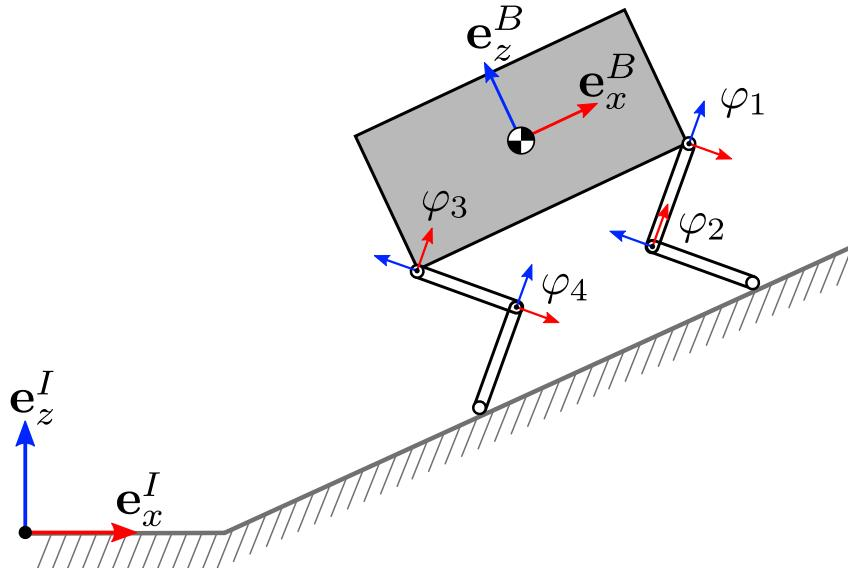

Figure 3: Planar legged robot standing on an incline.
In this exercise, consider the case of a planar legged robot with two legs and 4 joints overall. The robot consists of a rectangular base and legs comprised of links of same length, as is shown in Fig. 3. The configuration of the robot is parametrized by a vector of generalized coordinates:
- (1) The robot in Fig. 3 can have different contact configurations (without slipping). Analyze the number of independent contact constraints and the number of uncontrollable degrees-of-freedom in each case. Fill in the table below. [1 pt]
- (3) The equation of motion for the system in Fig. 3 can be written as  $\mathbf{M} \ddot{\mathbf{q}} + \mathbf{b} + \mathbf{g} + {}_I \mathbf{J}_c^\top {}_I \mathbf{F}_c = \mathbf{S}^\top \boldsymbol{\tau}$ . [1 pt]